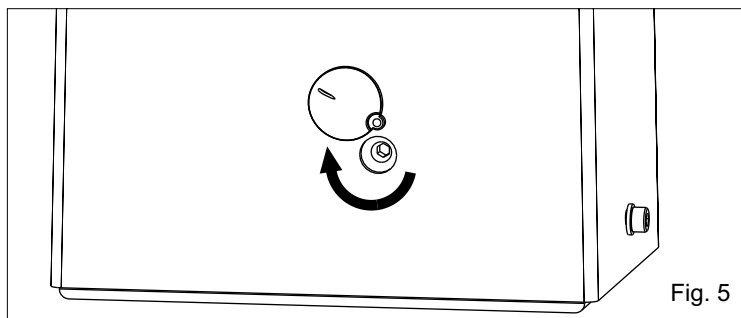

Fig. 5
- Open the little door of the release turning it towards the right or the left side to enter the release system (Fig. 5)